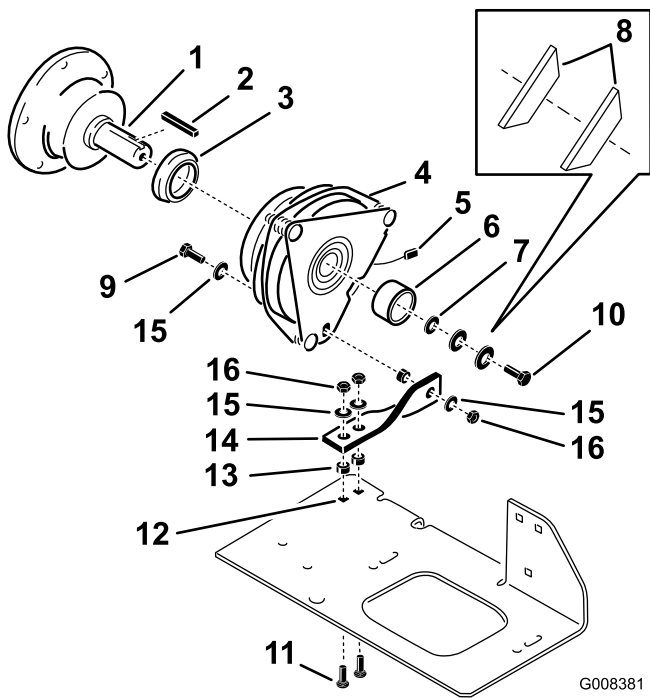
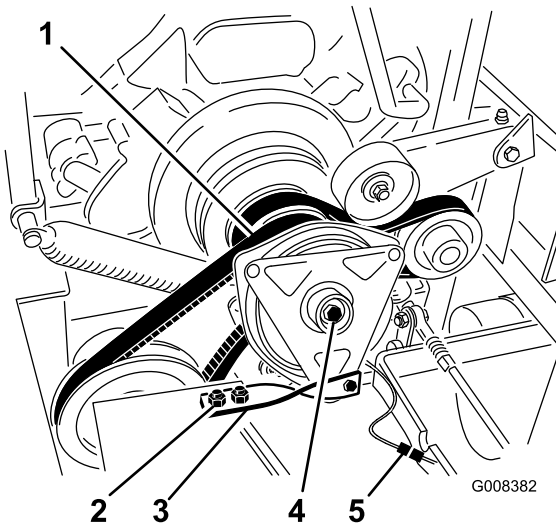

Figure 4
Figure 5
1. Install the new clutch stop to the clutch with a bolt (5/16 x 1 inch), 2 flat washers (.344 x .688 inch), a spacer and a locknut (5/16 inch) (Figure 4).
2. Install the clutch adapter onto the stub shaft (Figure 4). Ensure it is installed as shown.
3. Install the key onto the stub shaft and align the key with the clutch. Slide the clutch onto the stub shaft (Figure 4).
4. Secure the clutch to the stub shaft with the retainer, flat washer (.469 x .922 inch), 2 curved washers installed as shown (7/16 inch), and the previously removed bolt from the center of the clutch. Apply thread locker to the bolt and torque it to 50 ft-lb (Figure 4).
Important: Ensure the twist in the clutch stop is as show in Figure 4 and Figure 5.
7. Using the existing holes for the old clutch stop, install the new clutch stop to the machine with 2 carriage bolts (5/16 x 1 inch), 2 spacers, 2 flat washers (.344 x .688), 2 locknuts (5/16 inch) (Figure 4). Ensure the twist in the clutch stop is as show in Figure 4 and Figure 5.
8. Plug the electrical connections together (Figure 5).